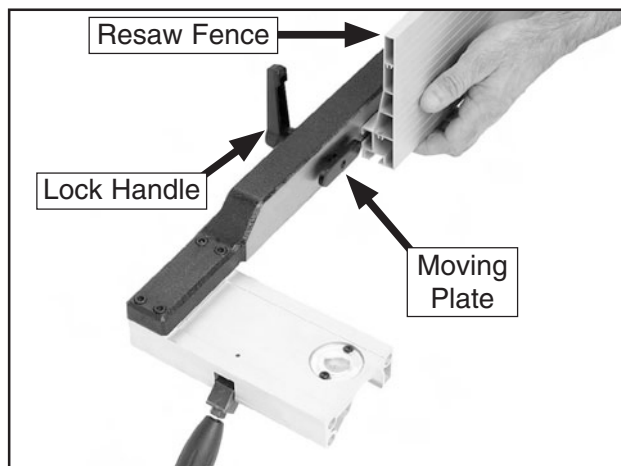

Figure 35. Attaching resaw fence to standard fence.
6. Slide the resaw fence over the moving plate, as shown in **Figure 35**, so the moving plate fits inside the channel of the resaw fence.